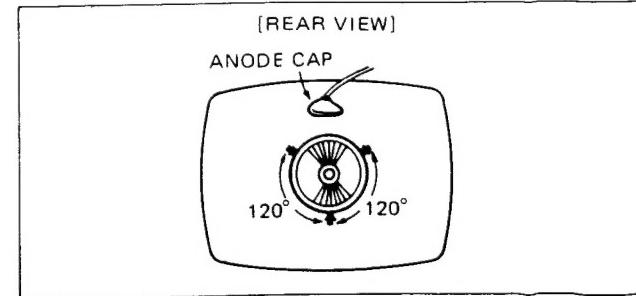

Fig. 5-12
9. Insert three wedges to the position as shown in Fig. 5-12. to obtain the best circumference convergence.